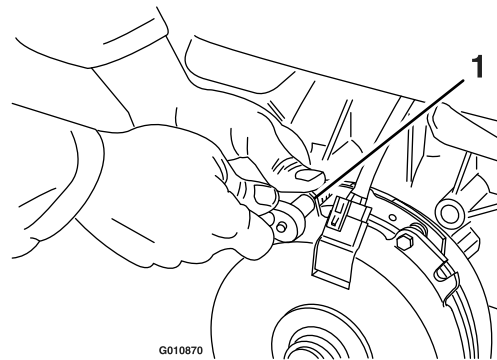

Figure 89
- A. Loosen both brake-mounting bolts 1/2 to 1 full turn as shown in Figure 89.